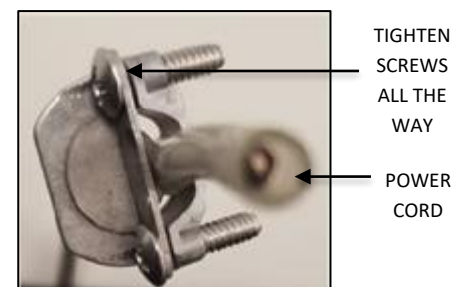

FIG. 16 – STRAIN RELIEF INSTALLATION
5. Insert CORD through the STRAIN RELIEF and tighten two SCREWS on the STRAIN RELIEF above the all-thread where marked. If screws are not properly tightened CORD could slip; through the STRAIN RELIEF, causing the fixture to fall. see detail as shown in FIG.16.